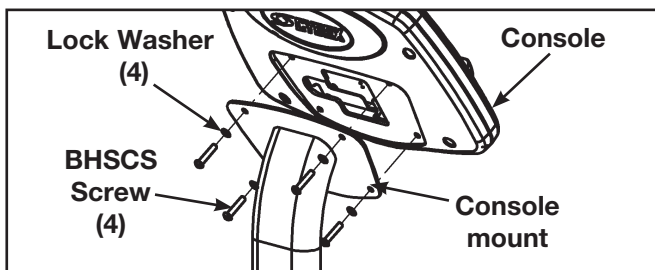

Figure 6
- E. Using a 5/32 Allen wrench, remove the four BHSCS screws securing the console to the console mount. **NOTE:** The console will be reinstalled onto the new console mount in step 12C. See Figure 6.